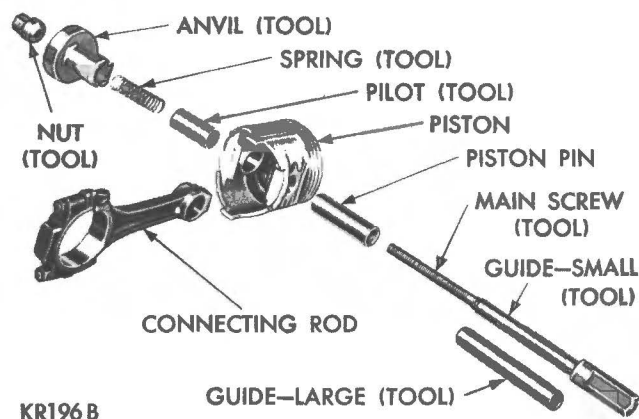

Fig. 35 - Tool arrangement for installing piston pin (Tool CA-3724).
(2) Lubricate the piston pin holes in the piston and connecting rod.
(3) Arrange the tool parts for installation of piston pin (Fig. 35).
(4) Install the spring inside the pilot and install the spring and pilot in the anvil.
(5) Install the piston pin over main screw.
(6) Place piston, with "Notch Front" up, over pilot so that the pilot extends through the piston pin holes.
(7) Position connecting rod over the pilot which extends through the piston hole.